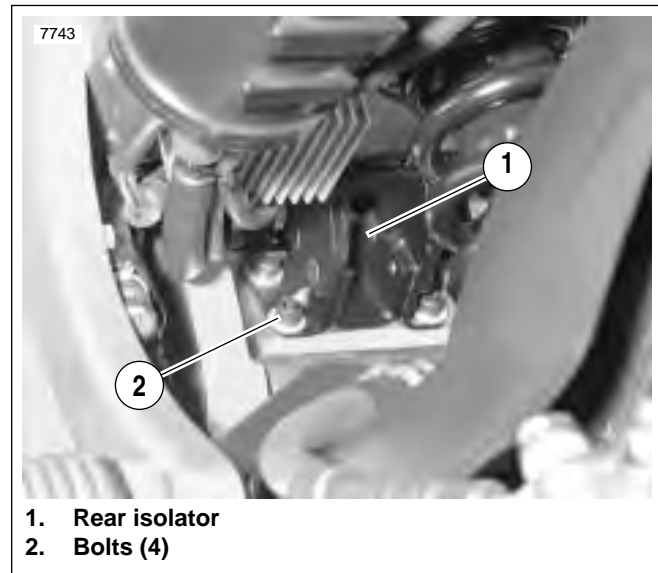

Figure 2-123. Rear Engine Mount Isolator
7. See Figure 2-123. Remove four bolts (2) connecting isolator (1) to engine.
1. See Figure 2-123. Clean engine bolt holes and bolts. Do not re-tap holes.